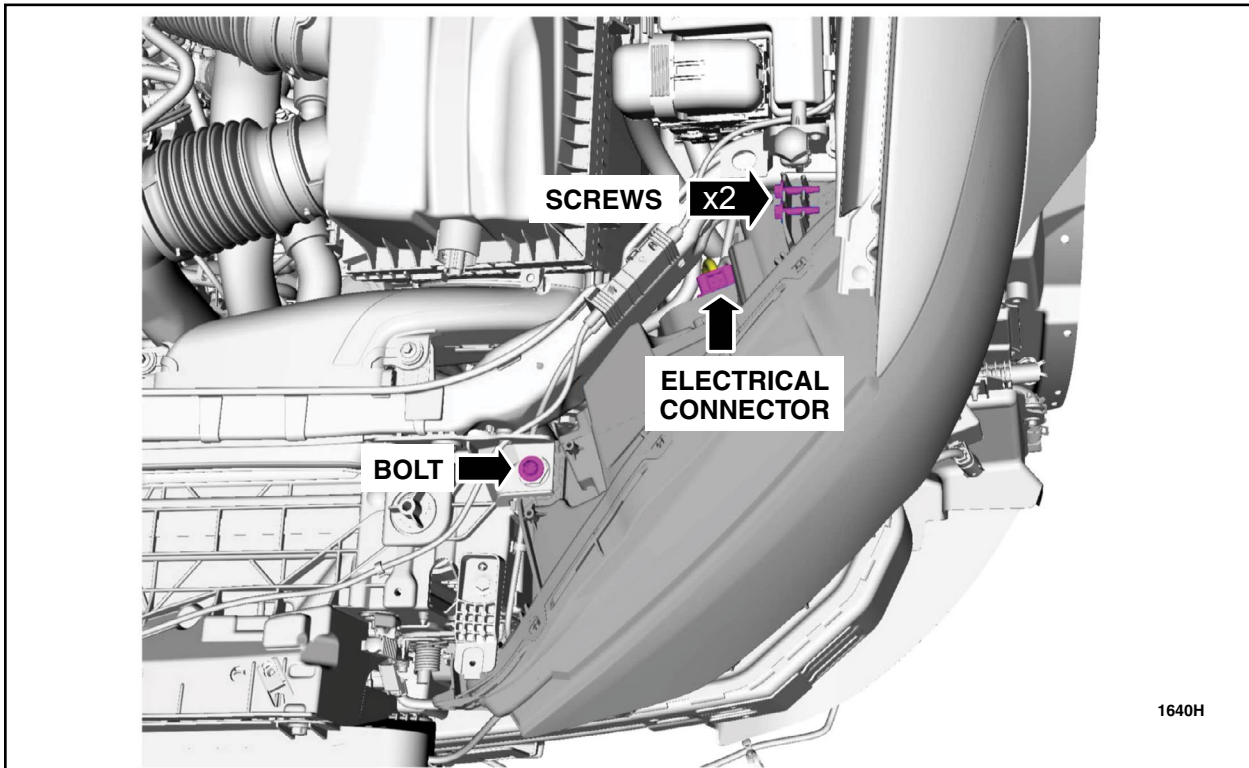

FIGURE 7
8. Remove the headlamp bolt, two screws and disconnect the headlamp electrical connector from both headlamps. See Figure 7.
- b. Install the headlamp bolt finger tight. See Figure 7.
- c. Install the headlamp screws finger tight. See Figure 7.
- d. Connect the headlamp electrical connector. See Figure 7.